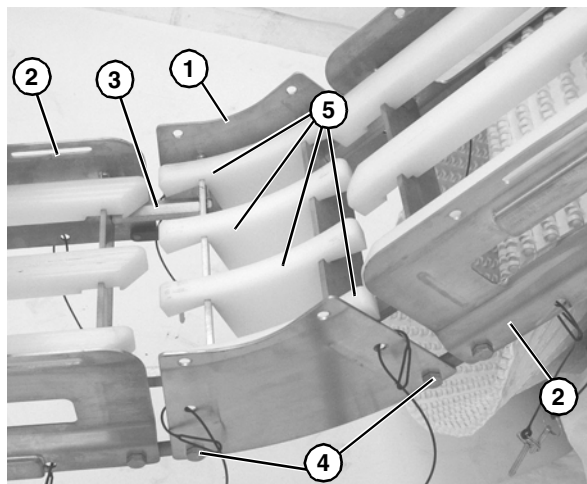

Figure 8
3. Attach lower knuckle (**Figure 8, item 1**) to frame (**Figure 8, item 2**) with hex rods (**Figure 8, item 3**) and bolts (**Figure 8, item 4**).
4. Install wear strips (**Figure 8, item 5**).